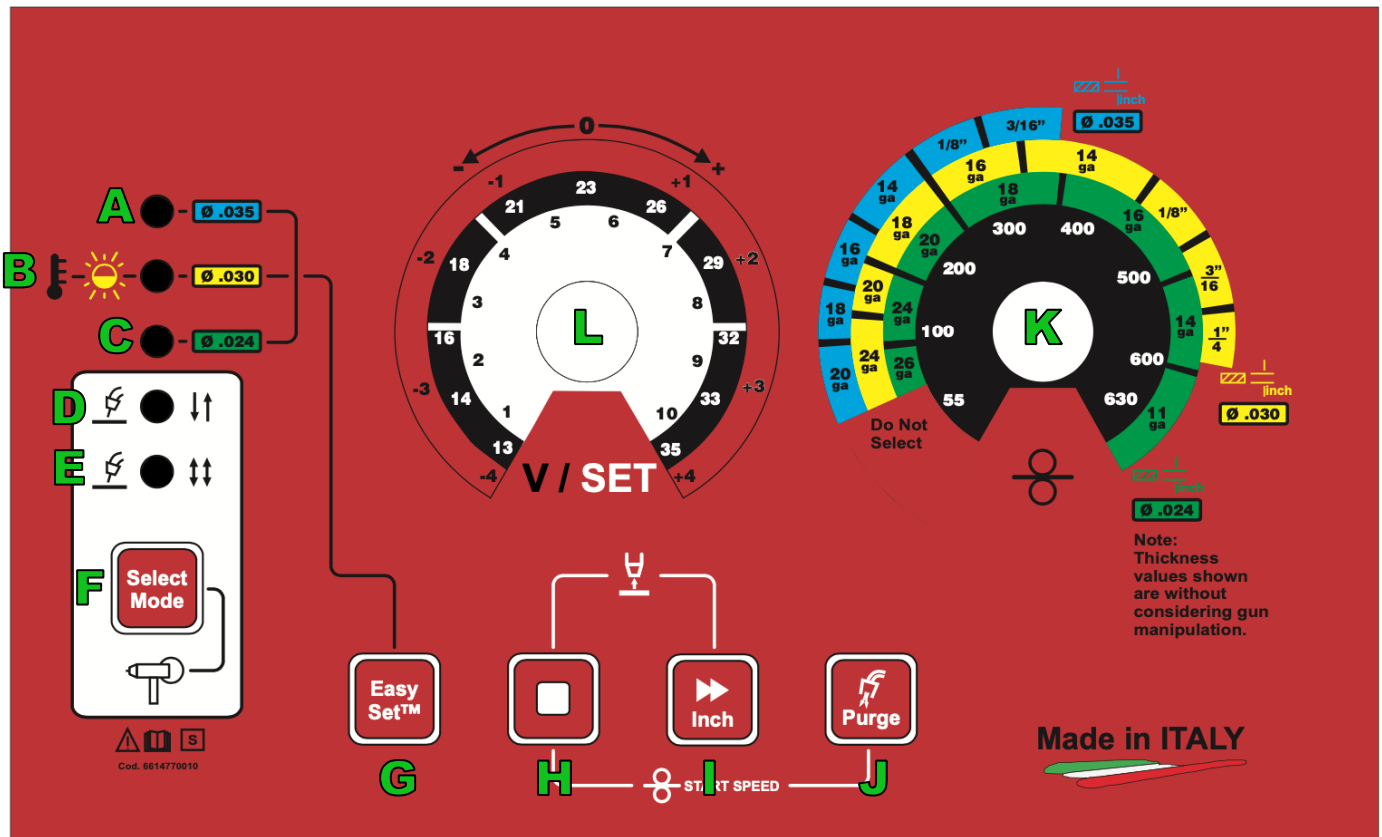

Fig. 2
Insert the power plug into a suitable power receptacle, switch the machine on by turning the line switch to the **ON** position, and press the **Manual Wire Feed Button (Fig. 2, I)** to feed the wire through the gun lead/cable assembly.
- 1) With the **Select Mode Button (Fig. 2, F)**, select either MIG 2T or MIG 4T. In MIG 2T, depressing the trigger starts the wire feed motor and applies current to the welding wire. Releasing the trigger stops the wire feed motor and extinguishes the arc. In MIG 4T, depressing the trigger starts pre-gas flow, releasing the trigger starts the wire feed motor and applies current to the welding wire, depressing the trigger again stops the wire feed motor and extinguishes the arc, and releasing the trigger again starts post-gas flow. Essentially, using MIG 4T allows you to weld without having to keep the trigger depressed, like a trigger lock on a drill.
- 2) Press the **Easy Set Button (Fig. 2, G)** repeatedly until all of the Wire Selection LEDs turn off.
- 3) Regulate the welding voltage using the **V/SET Knob (Fig. 2, L)**. Welding voltage is the black scale that goes from 13 to 35.
- 4) Regulate the wire speed using the **Wire Speed Knob (Fig. 2, K)**. The wire feed is the black scale that goes from 55 to 630 IPM.
- 1) Press the **Easy Set Button (Fig. 2, G)** to select an appropriate wire diameter (indicated by LEDs; **Fig. 2, A** for .035" wire, **Fig. 2, B** for .030" wire, **Fig. 2, C** for .023"/.024"/.025" wire). If all of the LEDs are turned off, the machine is in manual mode.
- 2) Select the thickness of the material to be welded using the **Wire Speed Knob (Fig. 2, K)**; the scale of color corresponds to the selected wire diameter: blue for .035" wire, yellow for .030" wire, and green for .023"/.024"/.025" wire).
- 3) If you would like to fine tune the synergic setting, use the **V/SET Knob (Fig. 2, L)** to adjust the welding voltage (-4V, +4V; red scale) to your liking. The default position is 0, at the center of the scale.
- 1) Turn the **V/SET Knob (Fig. 2, L)** to the desired position (use the white scale, numbered 1-10).
- 2) Hold down the buttons corresponding to the setting you want to change for about 5 to 6 seconds (**Fig. 2, H and I** for burn back, and **Fig. 2, H and J** for start speed) until you hear a triple beep.
NOTE: To reset the default value of the start speed or burn back parameters, hold down buttons G and H (Fig. 2) until you hear a continuous beep after three (3) shorter beeps.
If the welding current is more than 200 amps, the MIG 200i automatically reduces the wire speed and the welding parameters. In this case, the **Overheat Alarm LED (Fig. 2, B)** blinks until the operator sets the welding parameters lower than those that activated the MIG 200i's overcurrent protection.